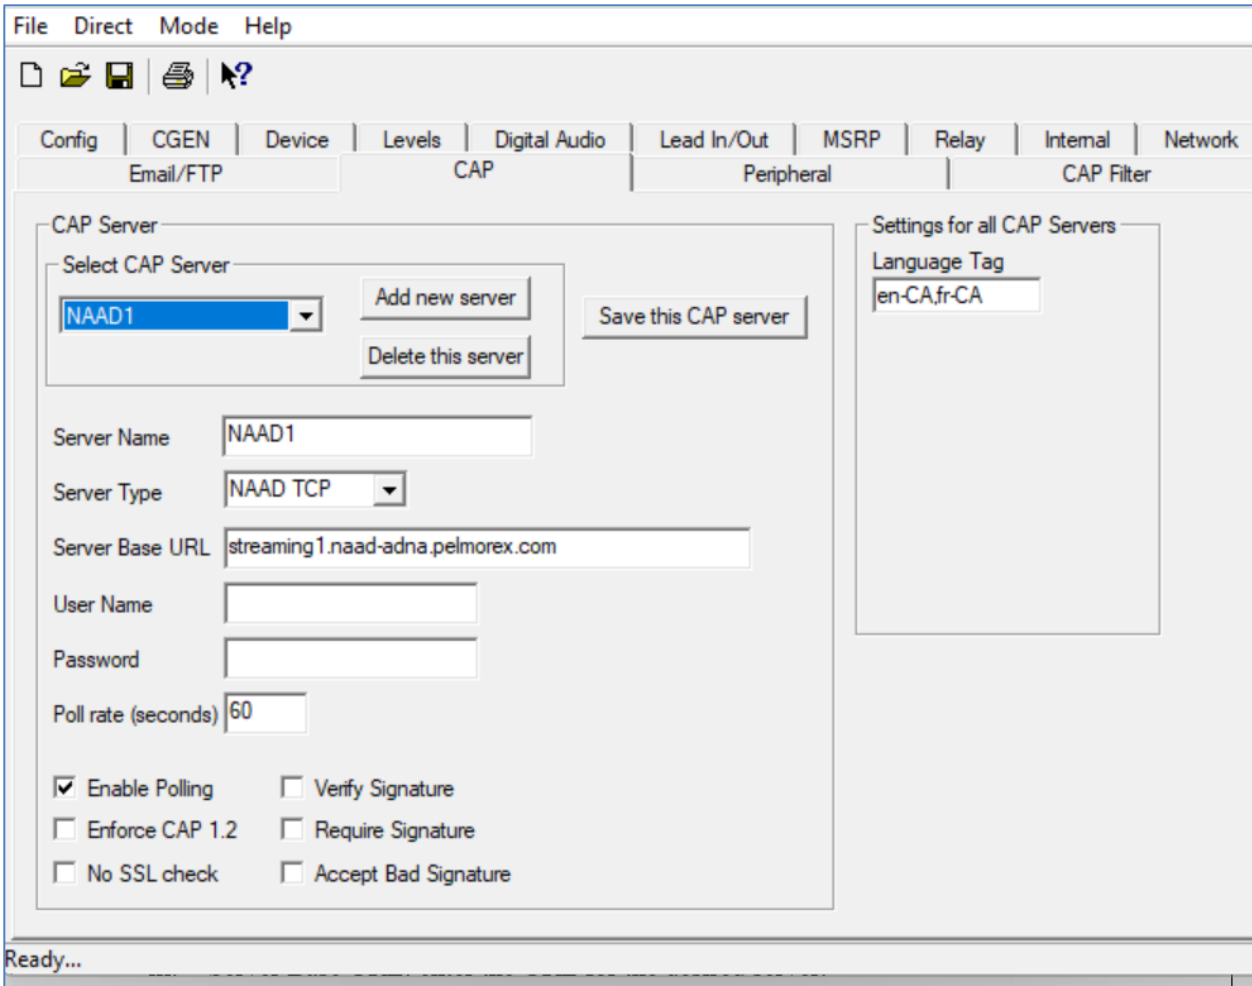

Figure 10.
3.12.1 The CAP tab shown in Figure 10 is used to specify the CAP-CP servers and desired alert languages.